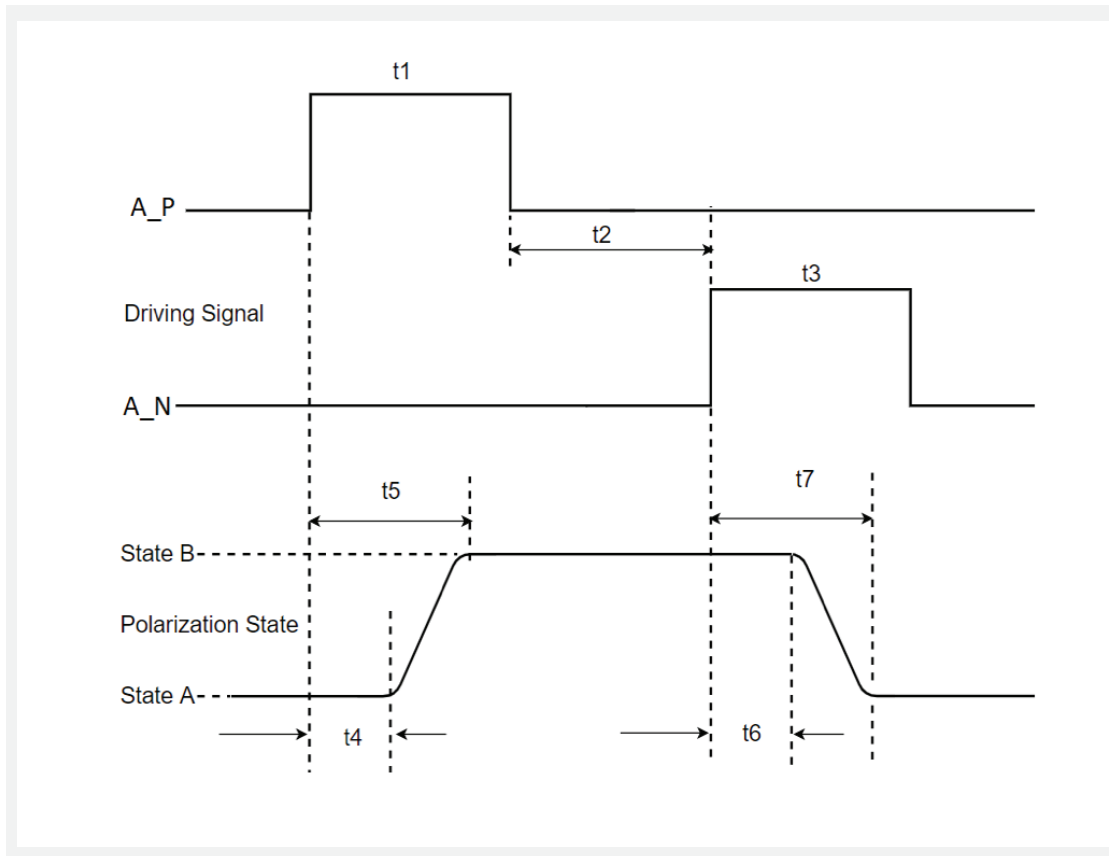

Figure 9 Polarization response to drive signal
- Time interval between drive signal pulse leading edge and completion of SOP transition ( $t_s$  and  $t_r$  in Figure 9) at room temperature ( $\sim$ 23°C) using an H-bridge driver circuit.